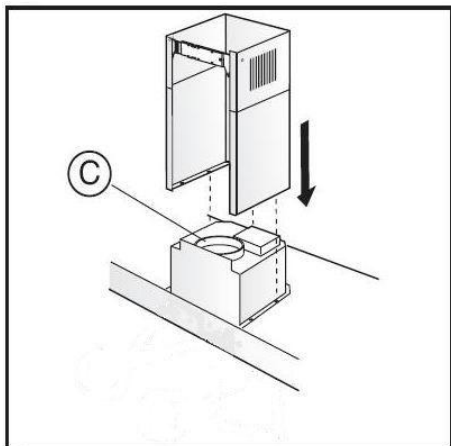

Fig.4
2. Adjust the width of the support bracket of the exterior chimney (Fig.3). Then fix it to the ceiling using the screws A (Fig.2) make sure that it is in line with your hood and respecting the distance from the ceiling indicated in Fig.2. Connect the flange C to the air exhaust hole using a connection pipe (Fig.4).